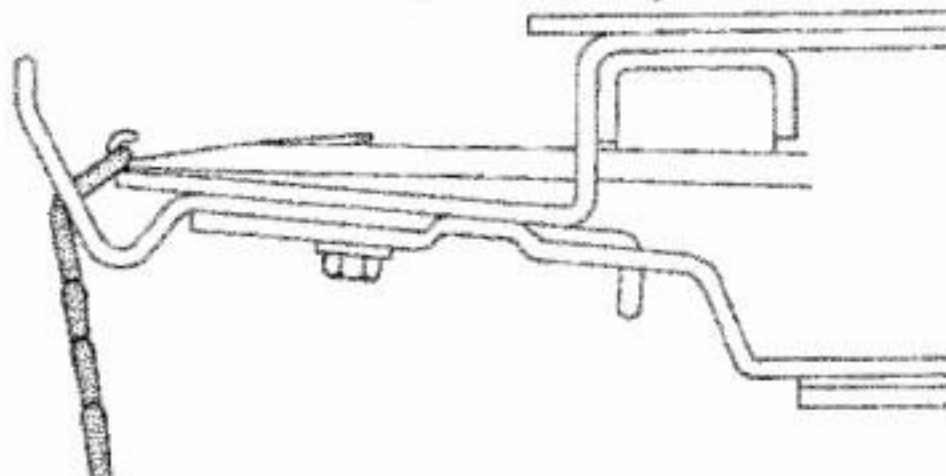

Fig. 125
- a) If the tension put on the yarn is too weak, the sitiches will come off when the Carriage returns owing to an im- perfect take up of slack yarn. To correct this, adjust the Tension Spring with the Tension Dial, so that it will stop within the range illustrated in Fig. 125, depending on the thickness of yarn used.